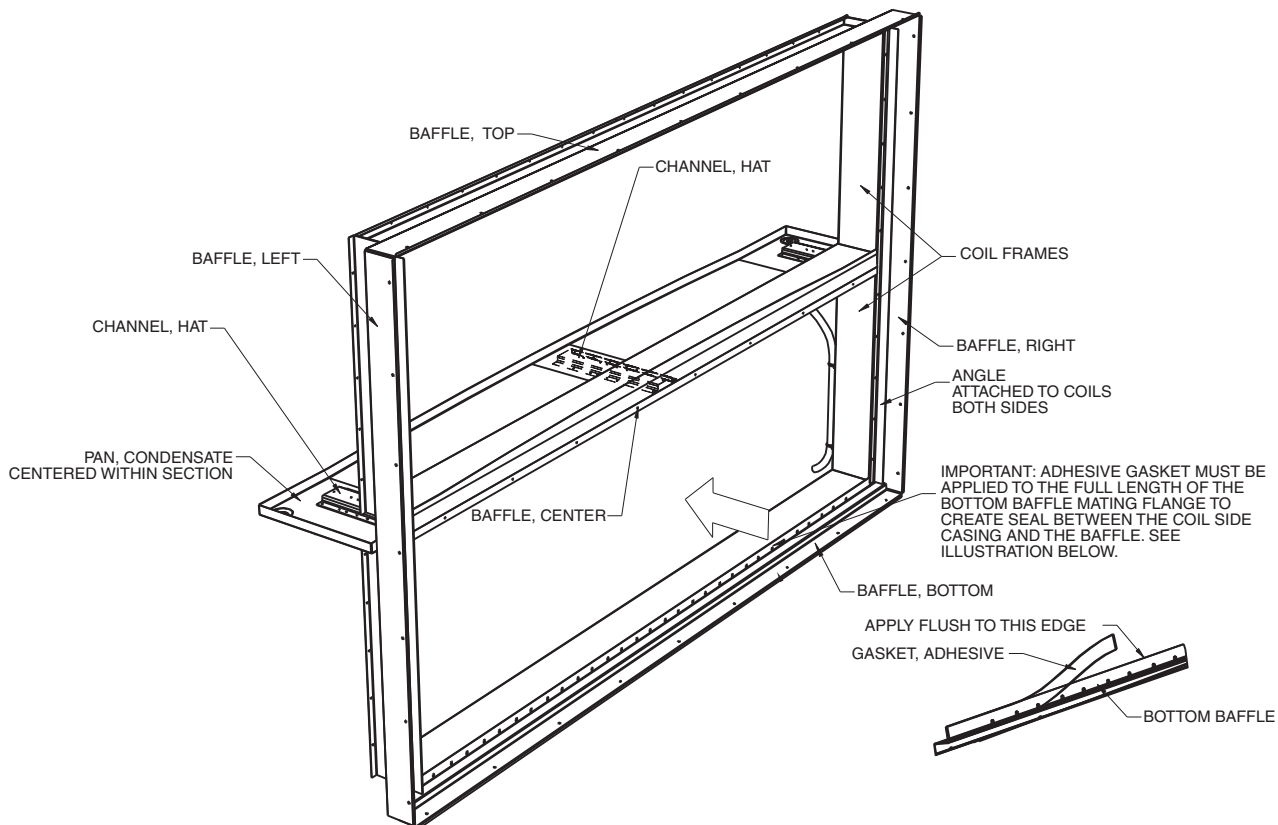

Fig. 174 — Coil Frames and Baffle
4. Remove the fastening screws of the uppermost coil from the upstream side. Note that the fastening screws pass through the vertical angle, baffles, and coil casing. See Fig. 174. Removal of the fastening screws may require reaching through an opened damper assembly, reaching through a filter track after filters are removed, or removing a coil immediately upstream.
7. On the upstream side of the stacked coils, remove and set aside the center baffle spanning the two coils (see Fig. 174).
12. Remove the fastening screws of the lowermost coil from the upstream side. Note that the fastening screws pass through the vertical angle, baffles, and coil casing. See Fig. 174. Removal of the fastening screws may require reaching through an opened damper assembly, reaching through a filter track after filters are removed, or removing a coil immediately upstream.
15. Inspect the adhesive backed gasket applied to the lower baffle, spanning the entire unit, on the surface that contacts the coil (see Fig. 174). If damaged, remove the remainder of the old gasket and replace.